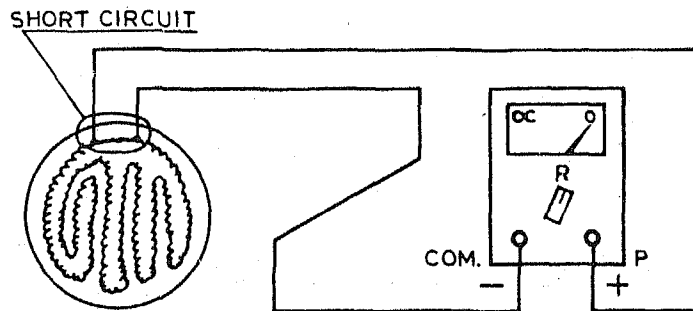
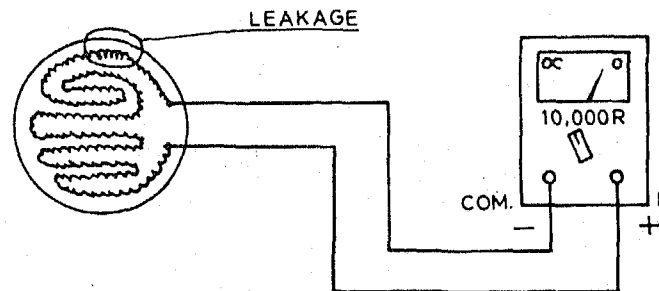
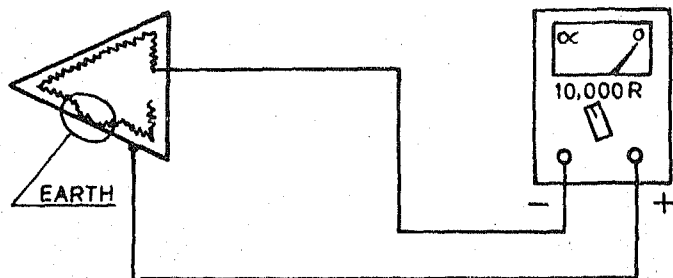

Fig. 14.2 The needle deflects to zero. S.C. is present.
Fig. 14.3 The needle deflects to a low value, showing that the leakage fault is present.
Fig.14.4 The needle goes to zero, showing that the Earth fault exist.
**Short Circuit Test:** Make connections of multimeter as shown in Fig. 14.2, Fig. 14.3 and Fig. 14.4 respectively. When a low resistance reading is obtained the leakage is indicated. When the value comes as zero the earth fault is present.